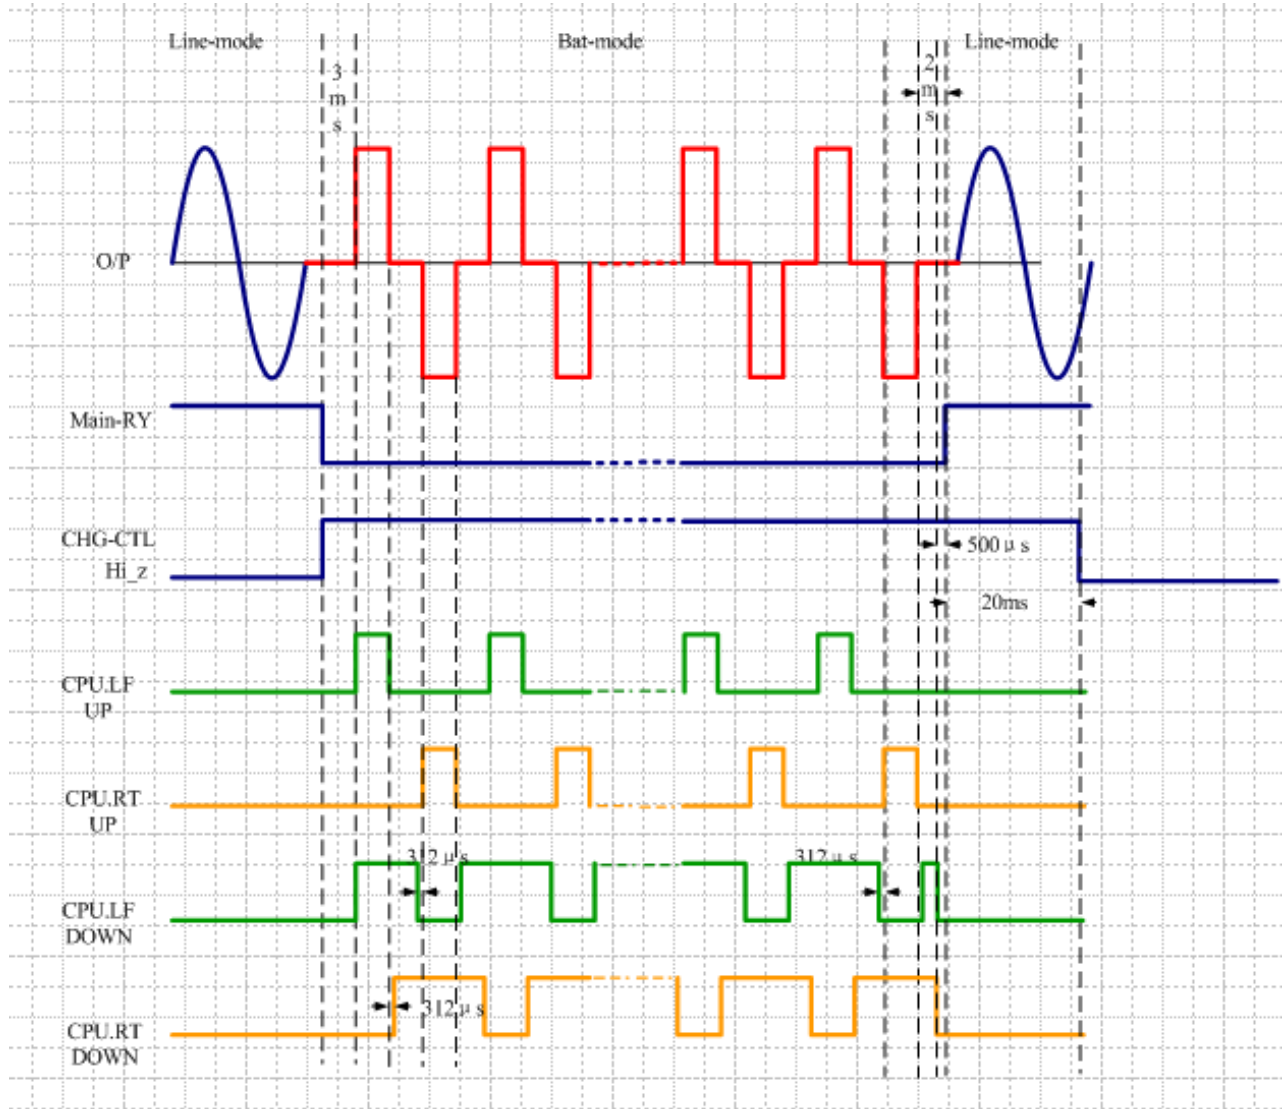

Figure W-3 Control logic (1)
Refer to the Inverter circuit diagram, the LF-UP, LF-DOWN, RT-DOWN and RT-UP signals are generated by CPU. Figure W-3 illustrates the waveforms of LF-UP, LF-DOWN, RT-DOWN and RT-UP while the system is at no load condition. The duty cycles of LF-UP, LF-DOWN, RT-DOWN and RT-UP signals are controlled by returned signal of output voltage (Please refer to Charger circuit) to get a stable output.
The gates of MOSFETs are driven by transistors Q18/Q19/Q21/Q22 which are controlled by the LF-UP · LF-DOWN · RT-UP and RT-DOWN. Those signals are from CPU pin28, 27, 29 and 30 directly or indirectly. Figure W-3 (1) shows the collector waveforms for CPU pin28, 27, 29 and 30 while the system is at no load condition at battery mode.
According to the diagram shown on "Figure W-3 Control logic (1)", while the driving signal LF-DOWN.VGS and RT-DOWN.VGS both get HI simultaneously in battery mode, the step output waveform get approximately zero, which is named CLAMP. In full-bridge circuit, unlike push-pull circuitry having isolated CLAMP circuitry and driven signal, the CLAMP signals are included in inverter drive logic.